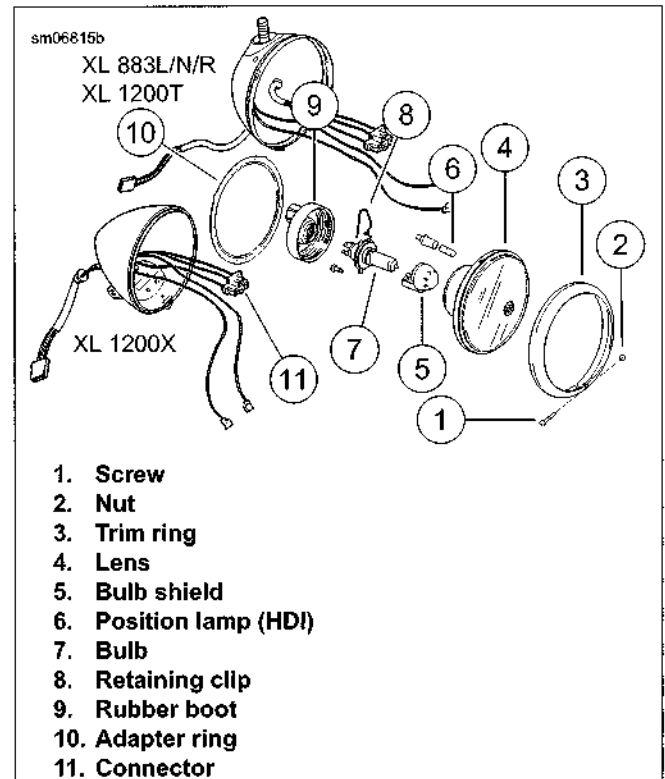

Figure 6-32. Headlamp Assembly: XL 883L/N/R, XL 1200T/X
- a. **XL 883L/N/R, XL 1200T/X:** See Figure 6-32. Remove the screw (1), nut (2) and the trim ring (3).